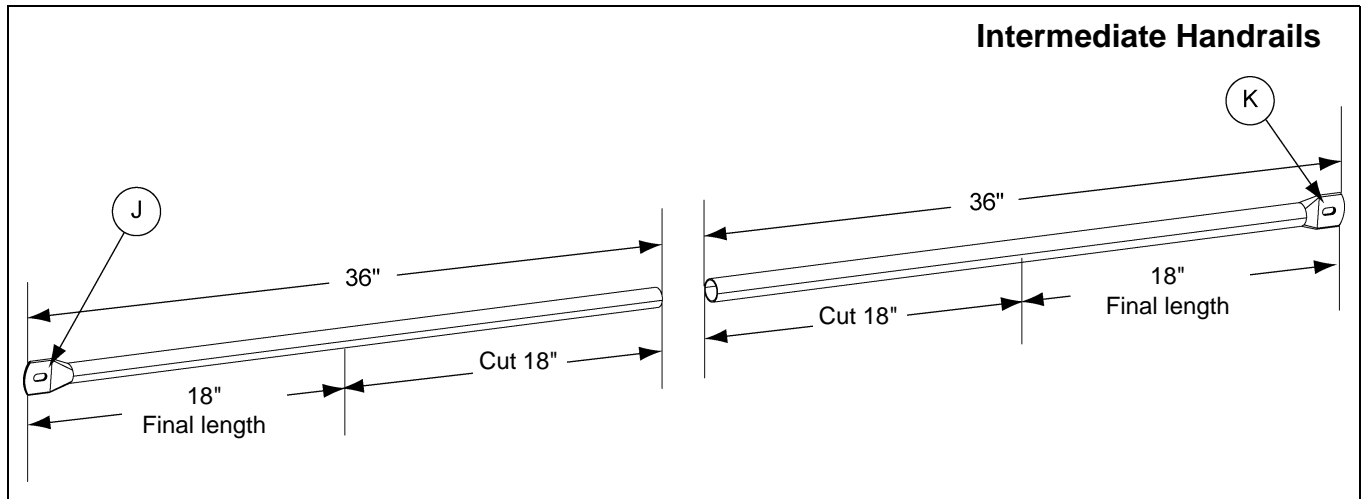

Figure 7J
4. Assemble the intermediate handrails by sliding the small handrail into the larger handrail to create a telescoping handrail that can be adjusted to the correct length between the posts. Two (2) of the small intermediate handrails and two (2) of the large intermediate handrails will need to be cut to fit. The starting length of each rail is 36". Cut 18" off the end of each rail so the final length of each rail is 18". (See Figure 7J.)